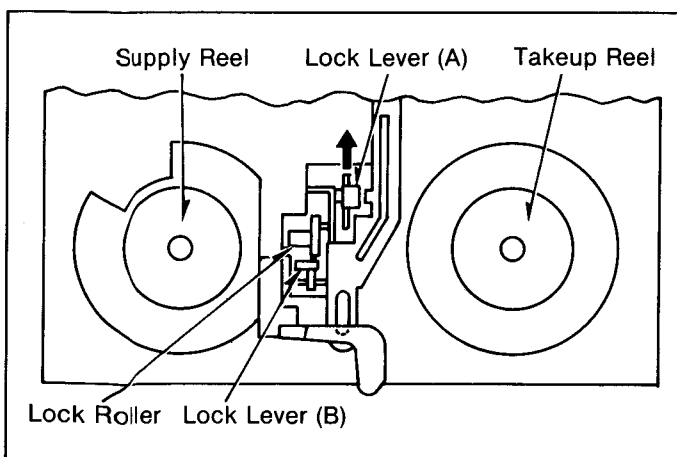

Fig. 17 Cassette Down Condition Without Cassette Tape
- (2) After this adjustment is finished, return the Lock Lever (B) to Eject position as described below.
- (3) How to return Eject position. Pull up the Lock Lever (A) as direction indicated by the arrow shown in Fig. 17.